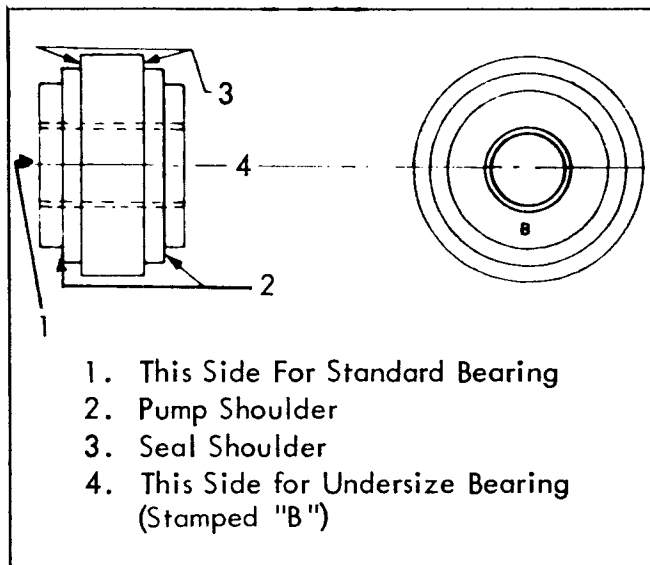
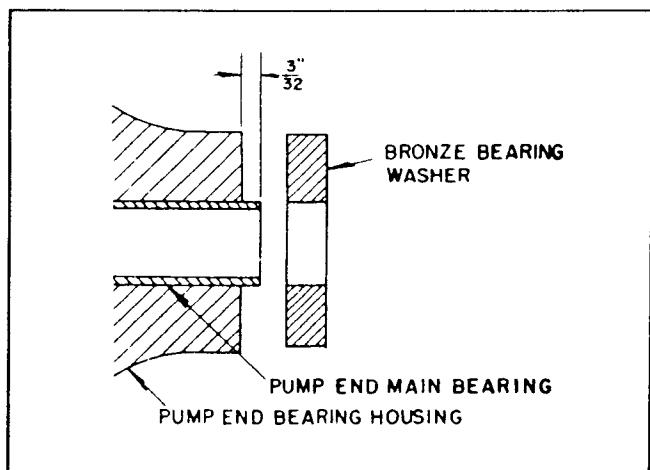

Fig. 16-30: Puller Shoulder
Fig. 16-31: Pump End Bearing Position
- 2) Using the puller shoulder (Figure 16-30) and a jackscrew or press, press the bearing into place. Let the bearing protrude beyond the housing $3/32" \pm 1/64"$ so it will support the bronze bearing washer (Figure 16-31).